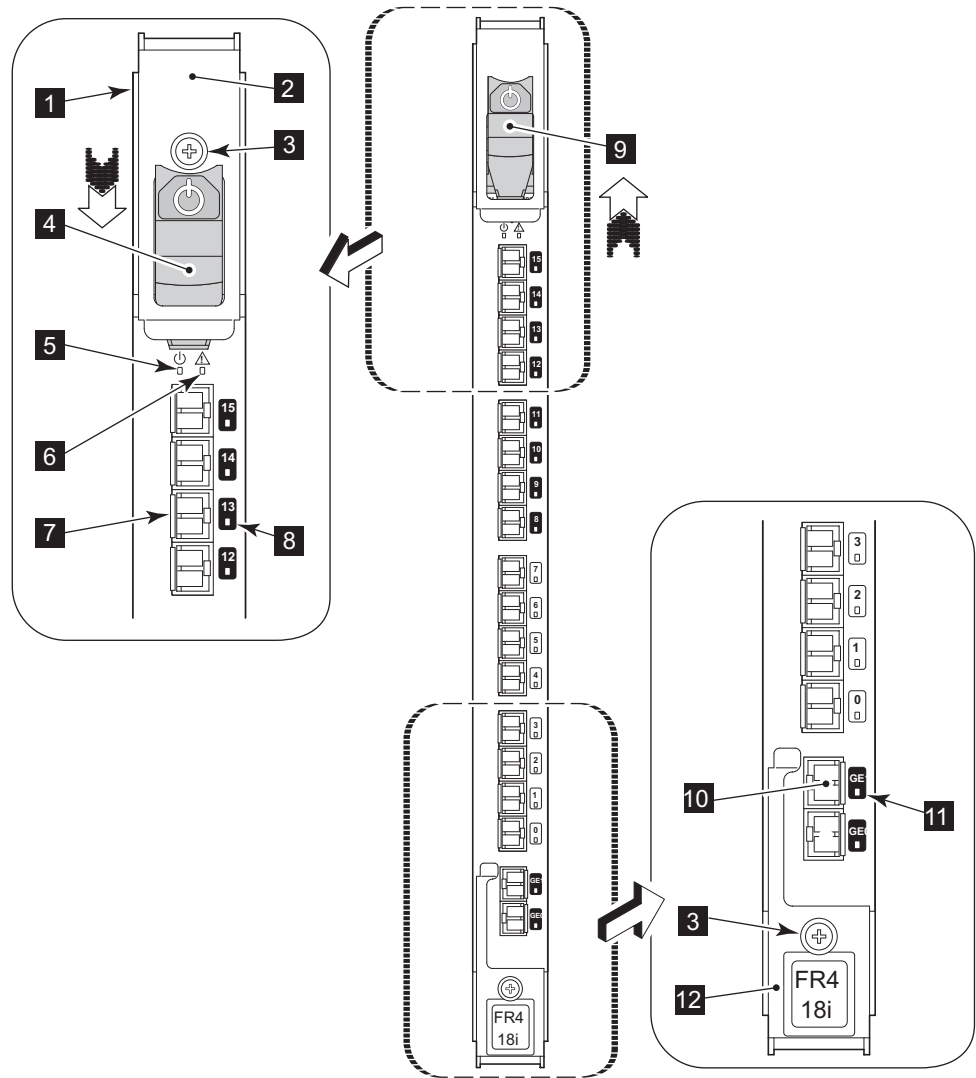

Figure 35. FR4-18i router blade and components
1. Using Figure 35 on page 85 as a guide, check the power LED, status LED, and port status LEDs to identify any possible problems with the router blade.
To install an FR4-18i router blade, complete these steps (refer to Figure 35 on page 85 for blade component locations):
7. Power on the blade using the power switch at the top of the blade ( **9** in Figure 35 on page 85). Keep the blade in an offline (disabled) state until the ports are configured.